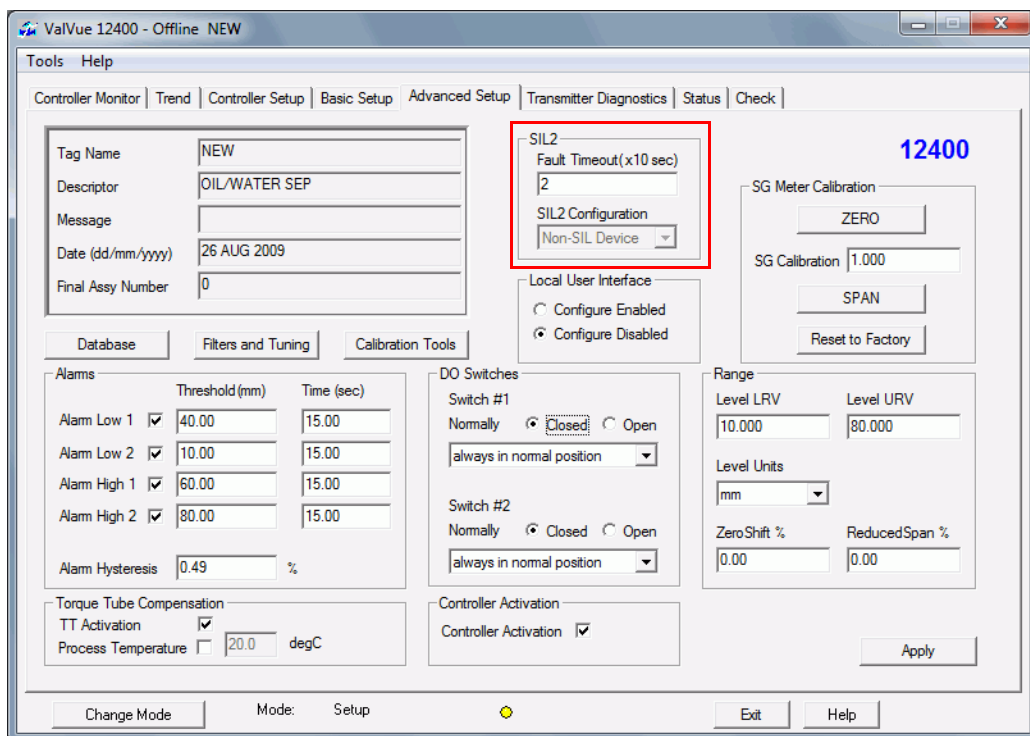

Figure 221 Starting Calibration Tools
- Click **Calibration Tools** (Figure 221).